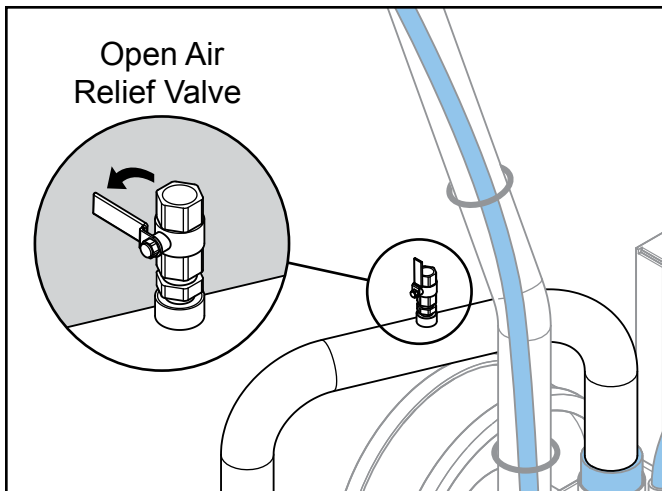

Figure 15. Air Relief Valve
6. When no more coolant can be added, open the air relief valve switch on the main radiator line to let the trapped air out (Figure 15). A little coolant may come out with the air. Close the air relief valve.